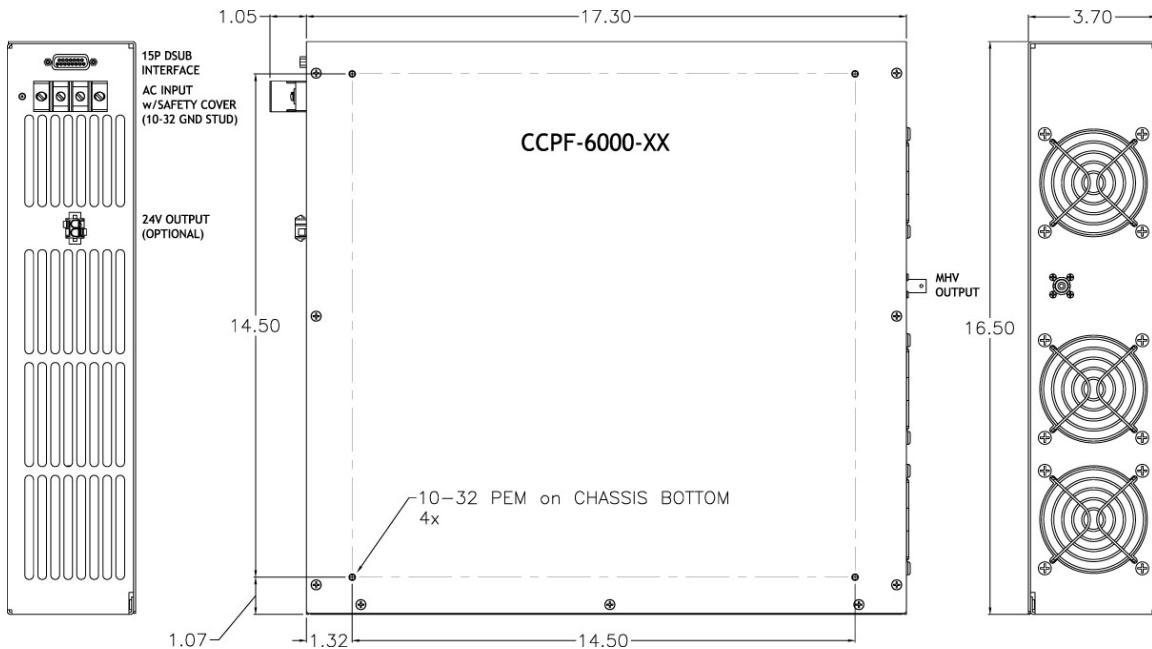

Figure 7.1 CCPF-6000-XX Outline Drawing
- **Required wire and connectors:** Refer to the Figure 7.1 below for the locations of connections. Table 7-1 below shows required cables and connectors:
- **Mounting of chassis:** Refer to Figure 7.1 below for location of four 10-32 threaded PEM’s on base of power supply. **Note: 10-32 mounting screws should not penetrate chassis by a length of more than 3/8” (0.95cm).**